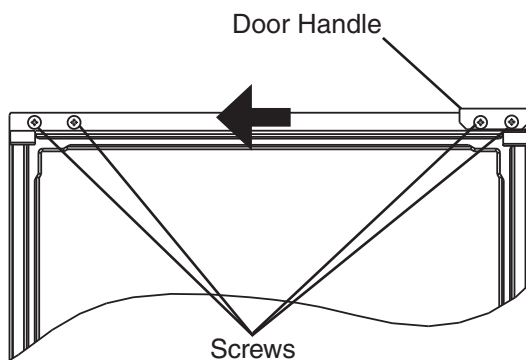

Fig. 6
- 6) Remove the 2 screws attaching the door handle and also remove the other 2 screws indicated in the illustration. Use 2 of the screws to attach the handle to the other side of the door and attach the other 2 screws in the remaining 2 holes. See Fig. 6.